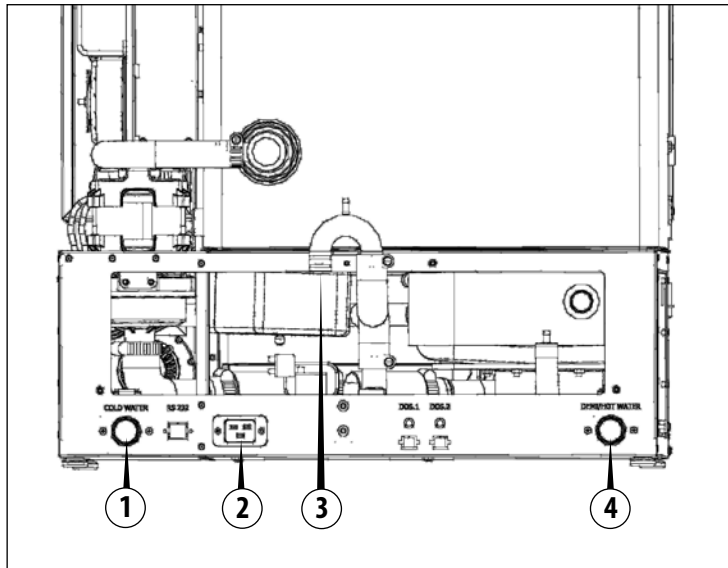

Fig. 8 - Connections (rear view of the machine)
Make sure to connect the water flexible hoses in the positions shown in figure 8.
- Connect the cold water flexible hose to connection 1 in figure 8.
- Connect the purified water flexible hose (if any), to connection 4 in figure 8.
The machine is equipped with a built-in drain trap which must be mandatorily connected to the drain system of the building. The correct positioning and sizing of the drain trap are shown on the installation drawing. The user must carry out periodic maintenance of the drains and check that they are not clogged. Connect the grey drain pipe to the drain solenoid valve located at the back of the machine (3 Fig. 8).